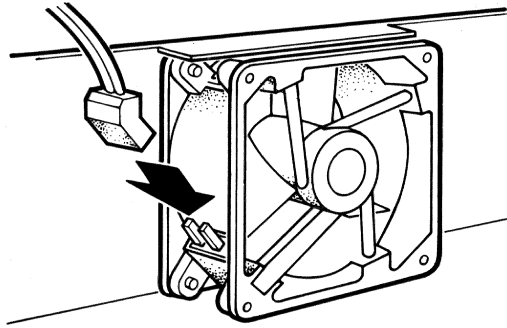
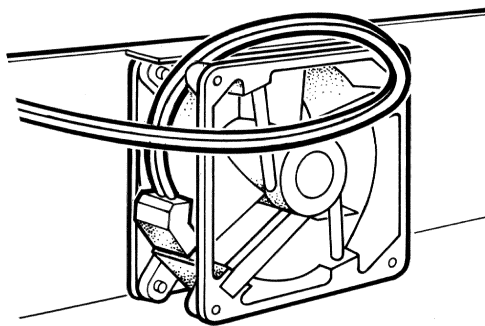

Figure 6-18 Rear Fan Connector
Figure 6-19 Rear Fan Cable Position
2. Place the power supply in position. The rear fan power cable is not keyed. Observe the polarity of the connector. The curve of the connector must match the curve of the fan housing. (Figure 6-18) Make sure you route the rear fan cable over the top of the rear fan. (Figure 6-19)
3. Reverse steps 1 through 3 of the removal procedure. The rear fan power cable is not keyed. Observe the polarity of the connector. The curve of the connector must match the curve of the fan housing as shown in Figure 6-19.